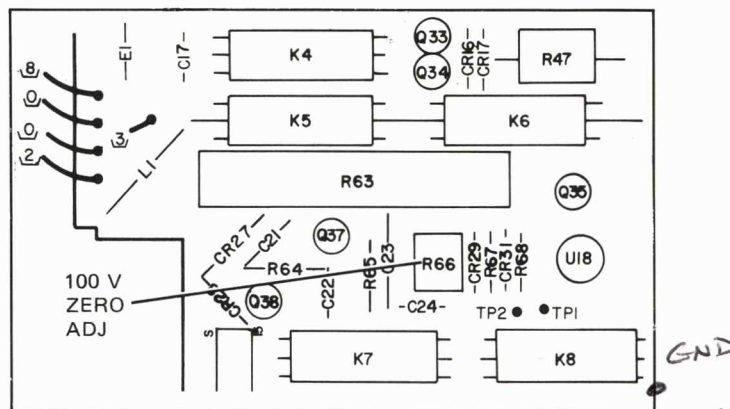

Figure 5-1. 100 Volt Zero Adjustment.
c. Set the test DVM to measure dc volts (autorange). Connect the DVM's low input to the A10 board ground test point and the high input to A10TO1 (Figure 5-1).
d. Adjust A10R66 (Figure 5-1) for a DVM reading of  $0\text{ V} \pm 50$  microvolt. Disconnect the test DVM.